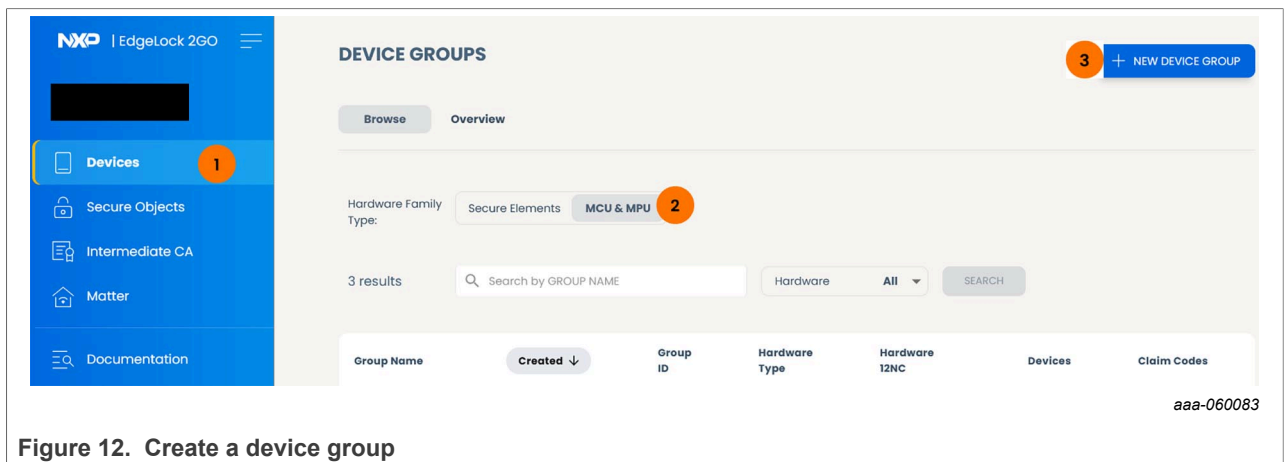

Figure 12. Create a device group
1. Click **Devices; MCU & MPU; New Device Group**, as shown in Figure 12.